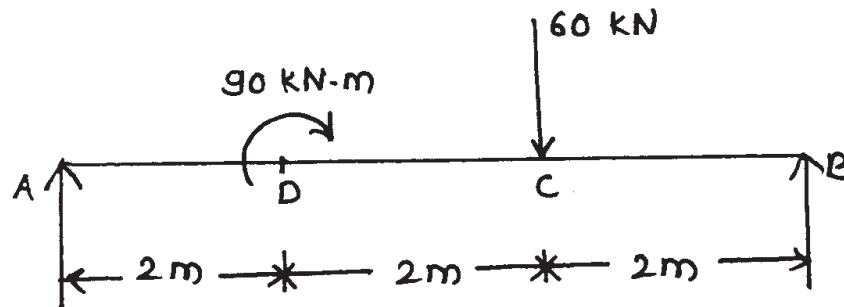

Figure No. 5
- e) Calculate analytically the support reactions of beam loaded as shown in Fig. No. 5.